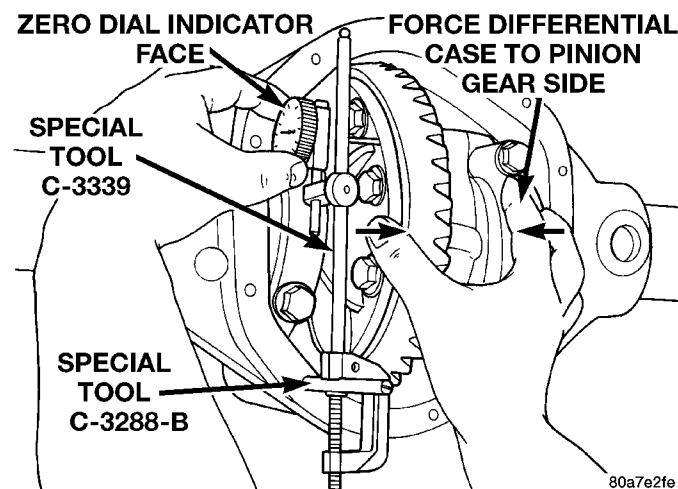

Fig. 72 Hold Differential Case and Zero Dial Indicator
(10) Push and hold differential case to pinion gear side of axle housing (Fig. 72).
(11) Zero dial indicator face to pointer (Fig. 72).